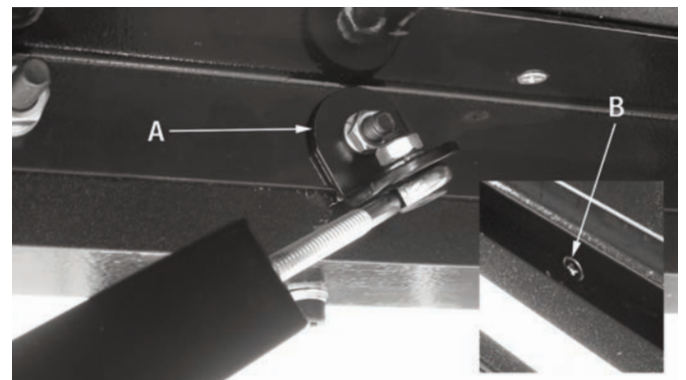

FIGURE 6
- 7) Mount the front diagonal brace assembly (A) Fig.6 to the countersunk hole drilled in the front of the steel frame of the extension table and the rip fence 90° angle support bar using a countersunk head screw (B) (not included), spring washer and hex. nut.